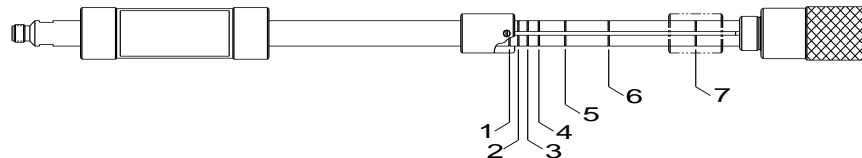

Figure 4. Sliding Ring Positions
2. Refer to **Figure 4**. Move the sliding ring forward as far as possible toward the connector end of the sliding termination.
4. Continue to set the sliding ring to all of the seven positions as shown in **Figure 4**. This completes the calibration sequence.